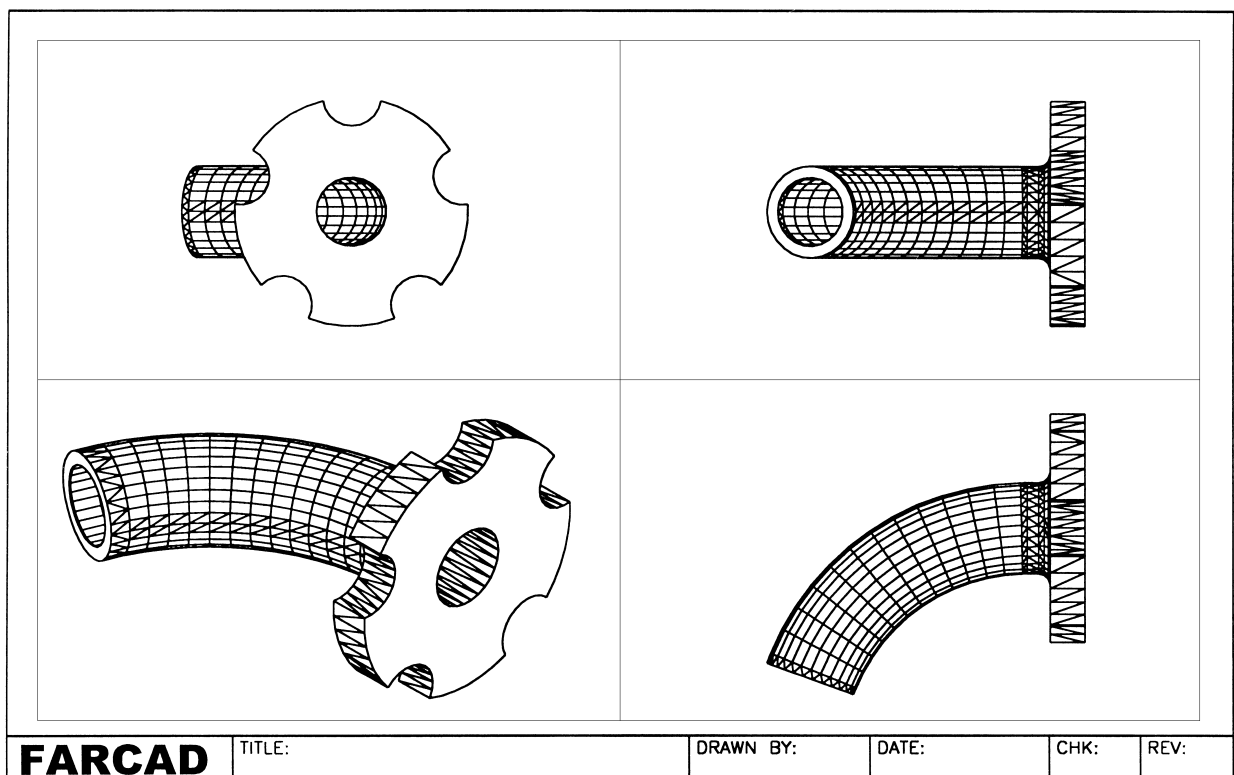

Figure 33.1 The completed composite model 3 – pipe/flange.
- 17 The model is complete and is displayed in Fig. 33.1. It can now be saved as **MODR2002\FLPIPE**